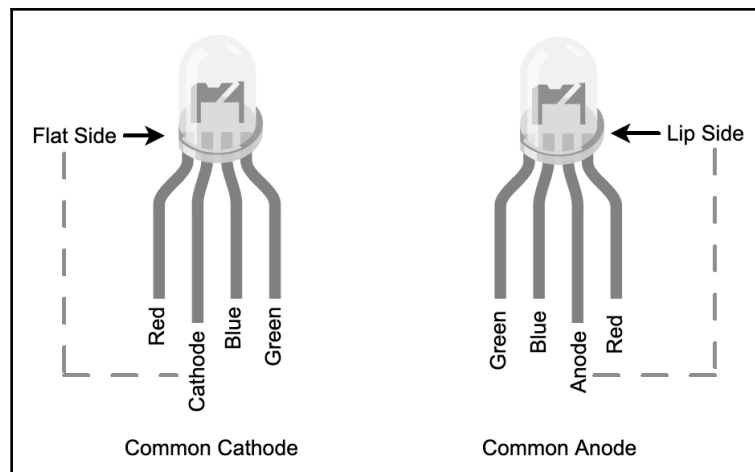
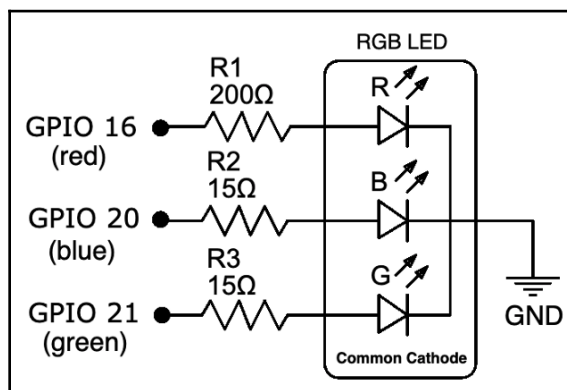

Figure 8.1 – RGB LED varieties
Figure 8.2 – Common cathode RGB LED schematic
An RGB LED is three single-color LEDs (red, green, and blue) in a single package, as illustrated in *Figure 8.1*:
We will start by building the circuit as shown in Figure 8.2 on our breadboard:
To use a **common anode** RGB LED, it needs to be wired differently than shown in *Figure 8.2*—the common anode leg must go to the +3.3V pin on your Raspberry Pi, while the GPIO connections remain the same. The other change is in code where we need to invert the PWM signals—you will find a file called `rgbled_common_anode.py` in the `chapter08` folder with the differences commented.
2. If your first three colors are not red, green, and then blue, your RGB LED may have its legs in a different order than the RGB LED's pictured in *Figure 8.1* and the circuit in *Figure 8.2*. What you will need to do is change the GPIO pin numbering in the code (see the following code snippets) and re-run the code until the color order is correct.